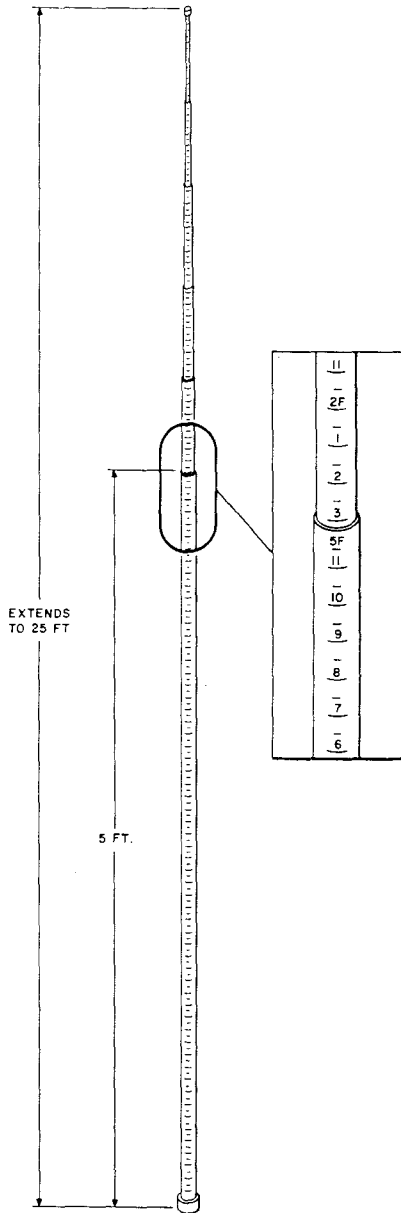

Fig. 16—B Clearance Rule
5.02 The B Clearance Rule consists of six lightweight bright yellow fiberglass tubes which are marked in black at half-inch intervals (Fig. 16). Inch and foot markings are arranged so that heights are read at the top of the bottom section. Each section is equipped with a positive stop mechanism consisting of a short, spring-driven nylon button which fits into a matching hole in the next larger tube. The rule weighs approximately 3 lbs. The rule has a collapsed length of 5 feet and may be extended to 25 feet. Heights up to about 28 feet can be measured with minimum loss of accuracy.